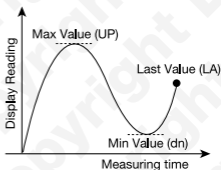

Figure 4
6. To display the Max, Min and Last Value readings, press the Feature Data button **C**. Refer to **Figure 4**: by pressing and holding button **C**, then releasing and pressing and holding again, the reading will cycle through the maximum RPM reading obtained (**UP**), the minimum RPM reading obtained (**dn**), and the Last Value recorded (**LA**). The **LA** Last Value is the final measurement taken before the measurement button **A** is released.